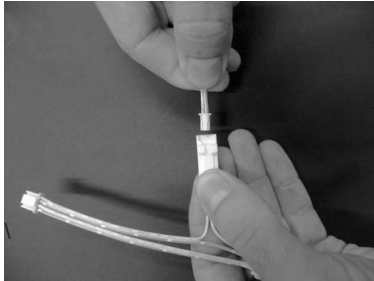

Fig 1
2. Connect DPLS2 Splice Connector to the selected mating Wire Harness Connector – see wiring harness selection (Table 1). Connect the Control Box's Splice Connector to the mating connector on the Wire Harness (Fig 1).